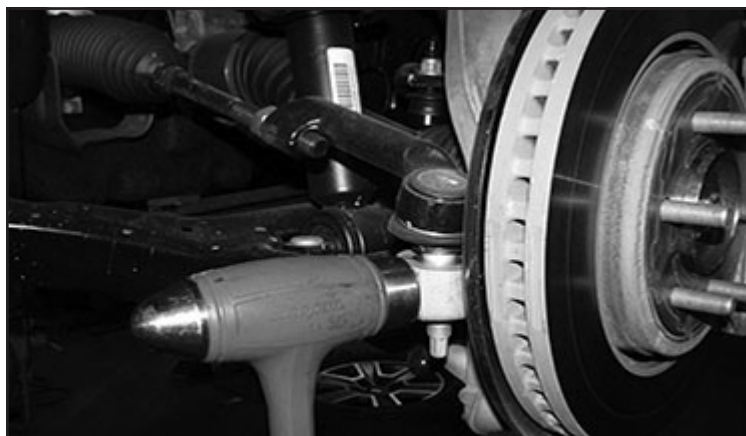

FIGURE 2 - STEP 3
3. Loosen the tie rod nut and carefully strike the knuckle with a hammer until it comes loose. Save hardware. **SEE FIGURE 2**
3. Loosen the tie rod nut and carefully strike the knuckle with a hammer until it comes loose from the knuckle. Save hardware. **SEE FIGURE 2**